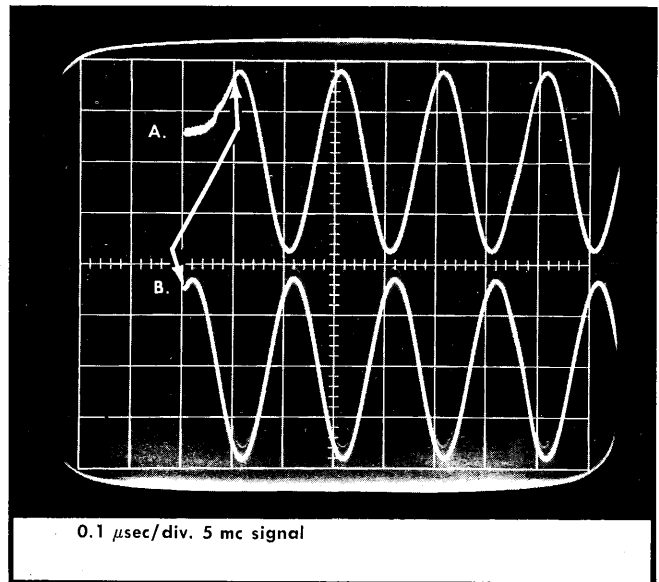

Fig. 5-23. Waveforms for Step 17.
d. Adjust the DELAY ZERO control, R99, so the display first looks like Fig. 5-23a. Then adjust R99 slightly clockwise to obtain a display like Fig. 5-23b. Arrows in Fig. 5-23 indicate the same point of the time window on both waveforms.